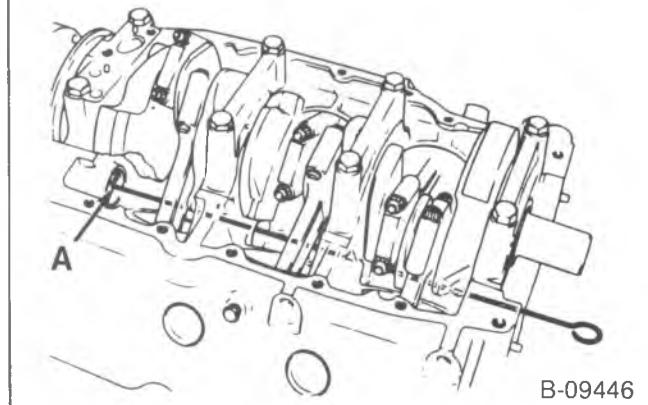

Figure 21—Checking Camshaft Bearing Oil Hole Alignment (Typical)
- Make sure the camshaft bearing hole (or holes) align with the oil hole (or holes) in the block. On some engines, the oil holes may be difficult to see. If so, use a piece of 2 mm (3/32-inch) rod as shown in figure 21 to check alignment.
Disassemble (Figures 21 through 26)